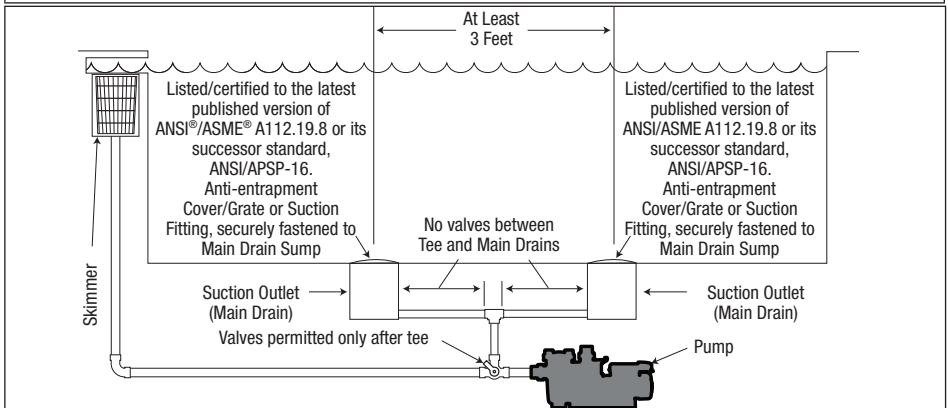

Figure 1. Proper Pump Suction Plumbing*
Number of Suction Outlets Per Pump - Provide at least two (2) hydraulically-balanced suction outlets, with covers, as suction outlets for each circulating pump suction line. The centers of the suction outlets (drains) on any one (1) suction line must be at least three (3) feet apart, center to center. See *Figure 1*.
The system **must** be built to include at least two (2) suction outlets (drains) connected to the pump whenever the pump is running. However, if two (2) suction outlets run into a single suction line, the single suction line may be equipped with a valve that will shut off both suction outlets from the pump. The system shall be constructed such that it shall not allow for separate or independent shutoff or isolation of each drain. See *Figure 1*.